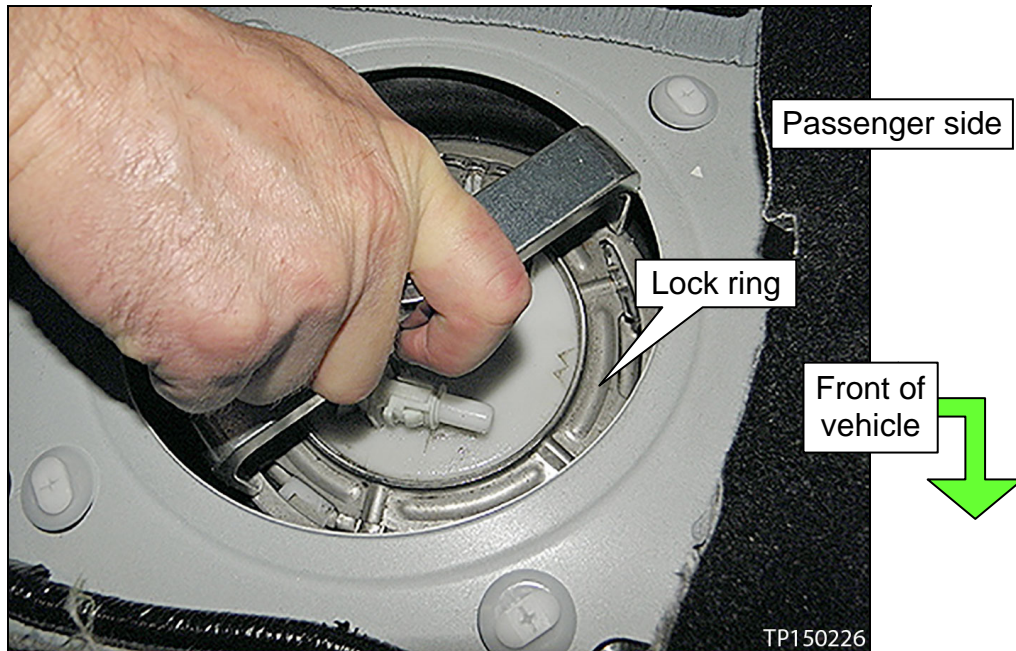

Figure 15
26. Install the fuel pump assembly lock ring (Figure 15).